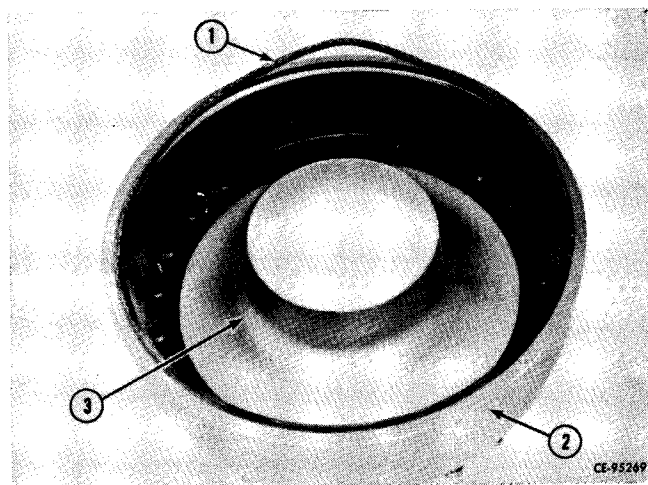

Figure 6-80
If the scavenger (3, Fig. 6-80) is damaged and requires replacement, drive it from the drum assembly with a heavy mallet. Remove the seal ring (4, Fig. 6-71) that lies between the scavenger and the brake drum. Discard seal and scavenger.
Remove the felt seal (1, Fig. 6-80) from its groove in the brake drum (2). Discard the seal.
Install a new seal (4, Fig. 6-71) on the drum shoulder of the drum. Position a new scavenger (3, Fig. 6-80) on the drum and tap edges lightly to start scavenger into bore. Position a hardwood block across the FULL DIAMETER of the scavenger and using a mallet drive the scavenger into position. Rotate the block while striking it with the mallet. Be sure the scavenger is seated around its entire circumference against the drum shoulder.
Install a new drum seal (1, Fig. 6-80) in the drum groove. Do not damage or distort the seal during installation. Seal must not be twisted during installation.